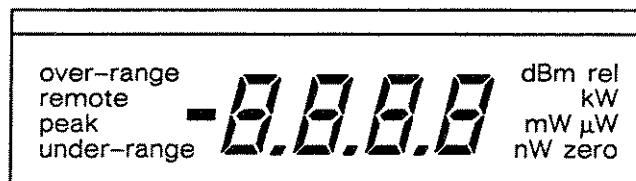

Fig. 1-1 : Liquid crystal display (LCD)
- The main display is a large four-digit LCD with a variety of annunciators (see Fig. 1-1). An additional analogue meter gives a display relative to the top of the current range.